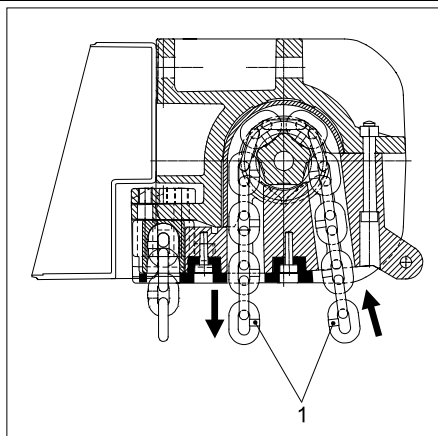

Figure 4-6
3. Place the load chain on the chain sprocket so the chain link welds are **toward** the pocket as shown in Figure 4-6.